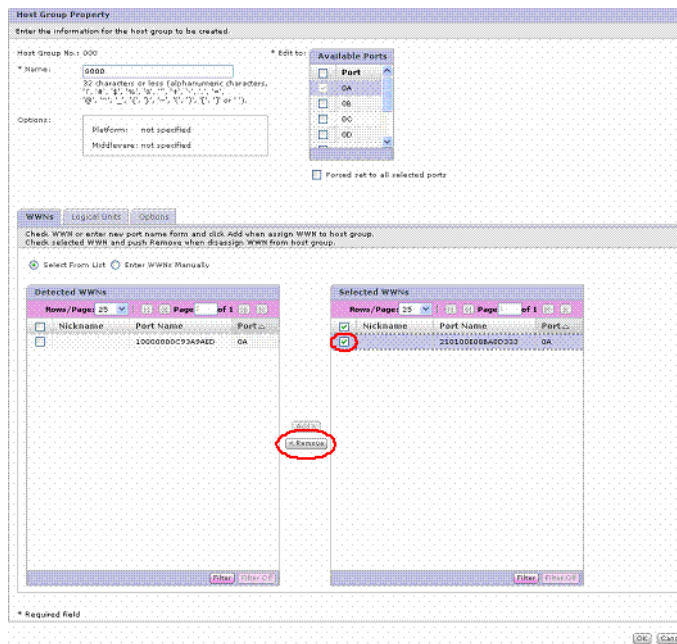

Figure 8-25: Host Group Property Window-WWNs tab, Remove
1. In the Host Groups tab, click **Create Host Group** or **Edit Host Group**. Figure 8-25 appears